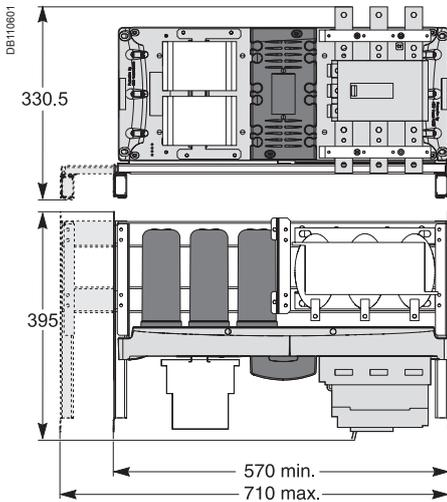

Fig. 6.
- harmony power factor correction module (Fig. 6):